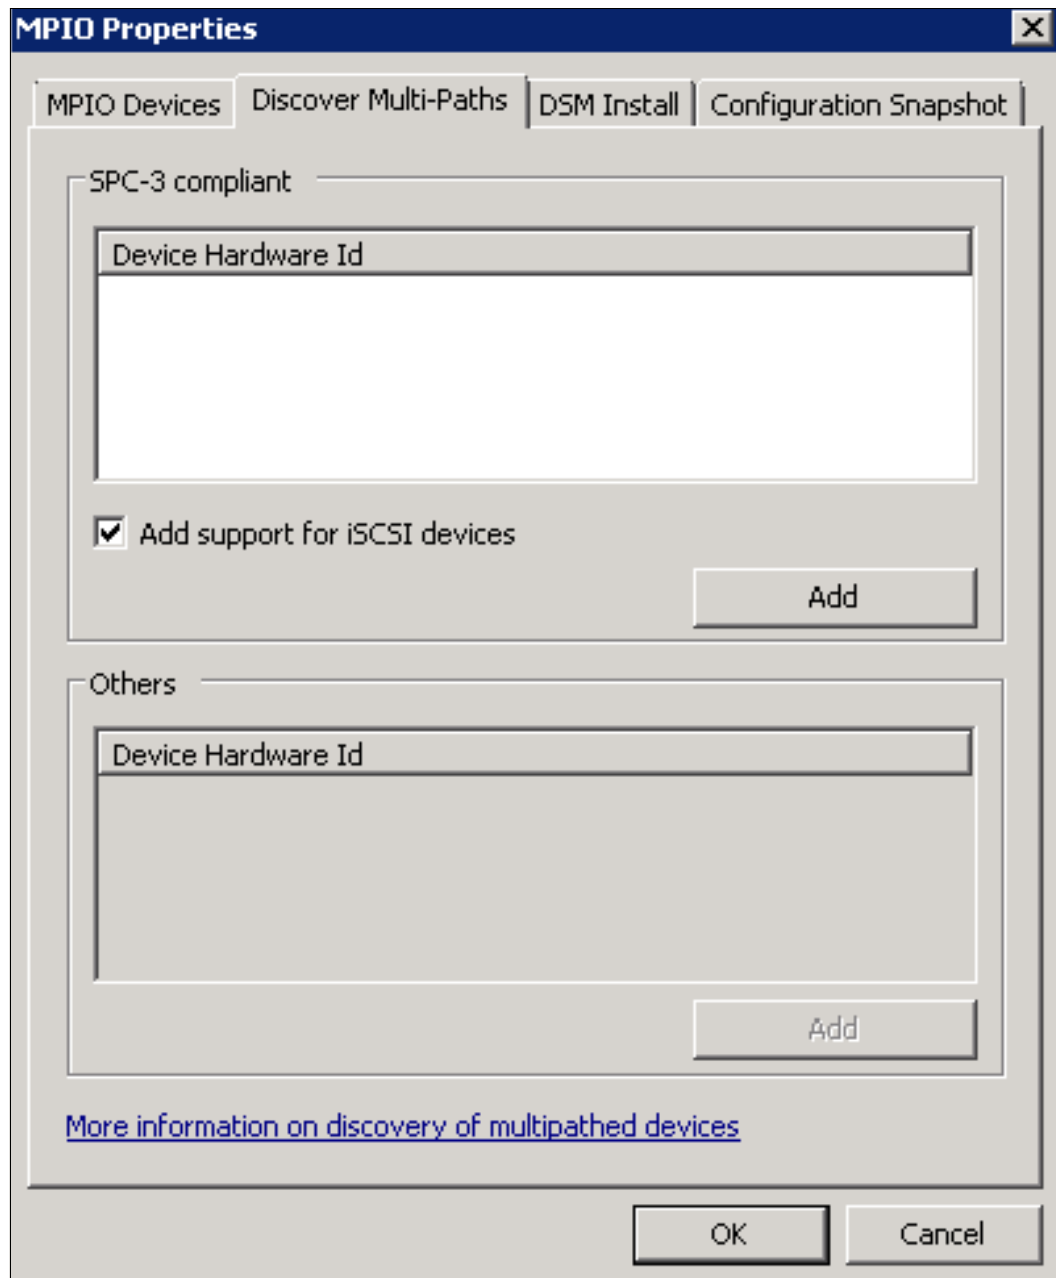

Figure 5-50 Enable iSCSI MPIO
2. Click **Start** → **Administrative Tools** → **MPIO**, click the **Discover Multi-Paths** tab, and select **Add support for iSCSI devices**, as shown in Figure 5-50.